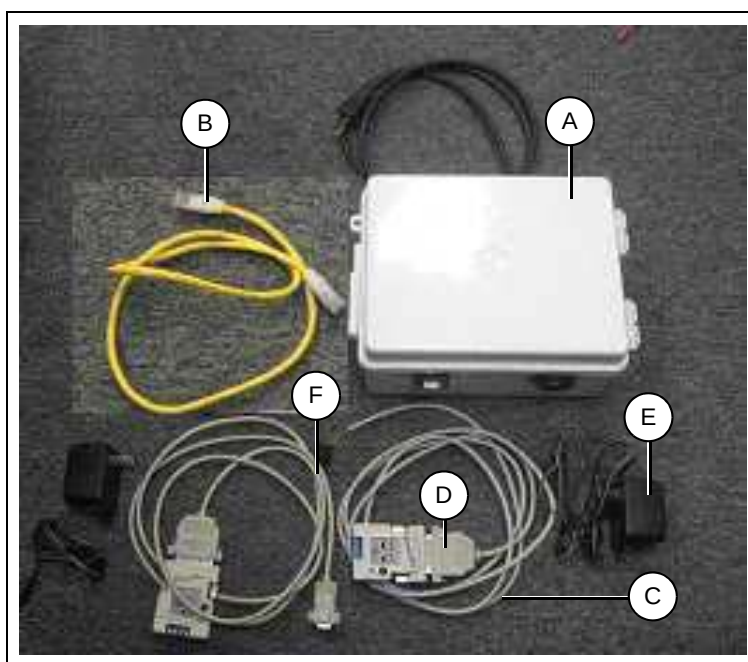
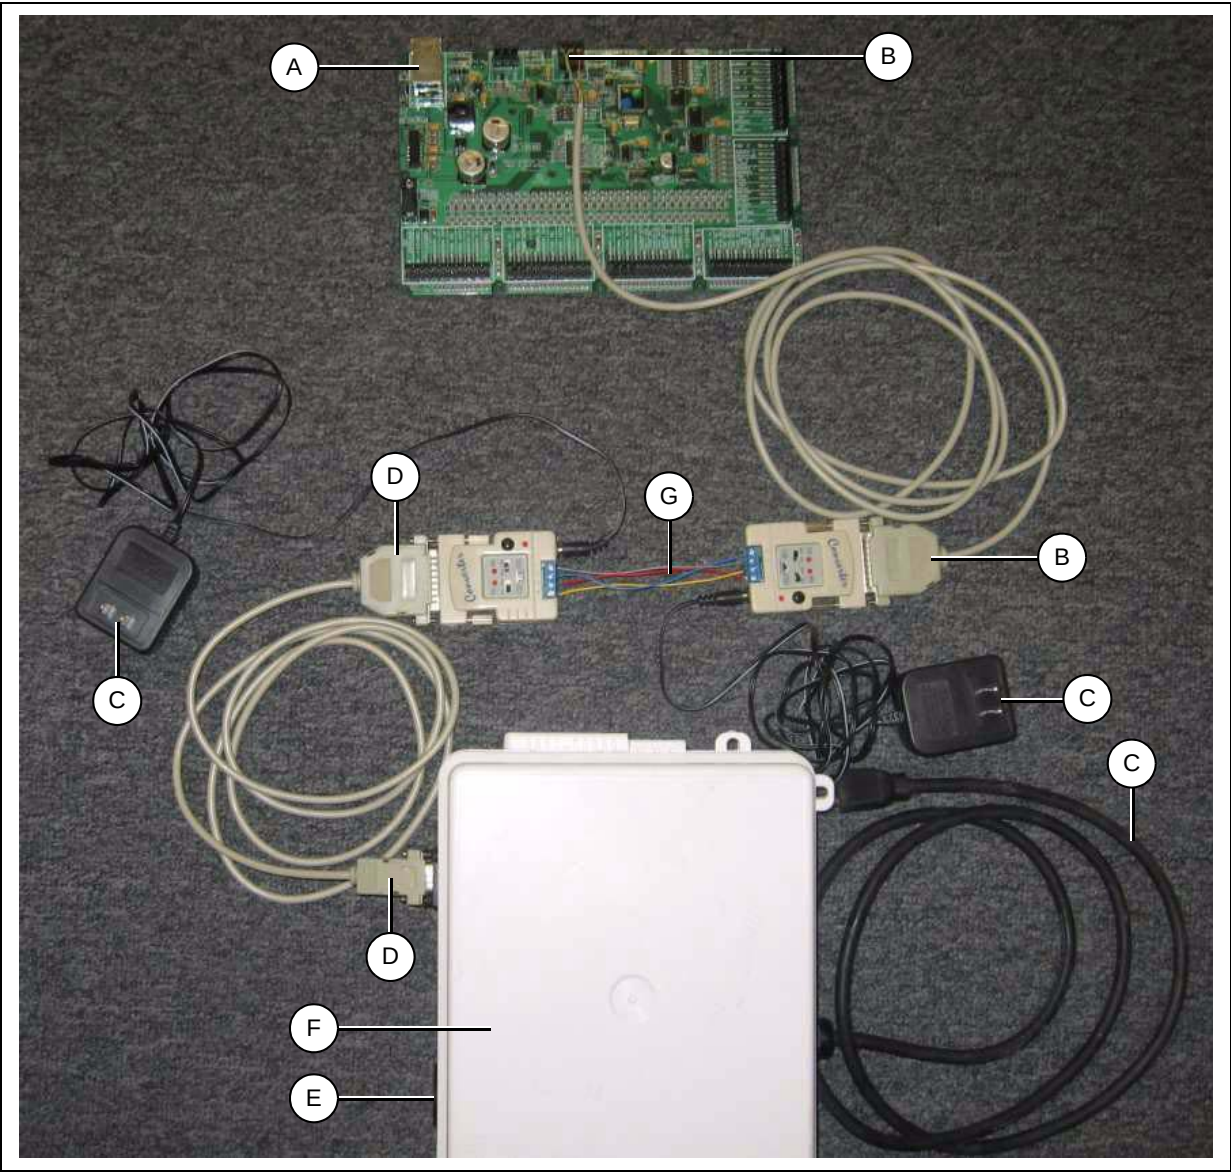

Figure 4A WatchDog System Components for Direct Connected Type (Part # VIS-WATCH-DC)
Figure 5A Wiring for Direct Connection
1. Direct Connect (Part # VIS-WATCH-DC) - This option allows the user to connect their dryer directly to their PC using two (2) short haul MODEMs and four (4) wires (Ethernet Cable). The contents of this option are pictured in Figure 4A.
The direct connection style setup (GSI Part # VIS-WATCH-DC) allows the user to connect his PC to the WatchDog System using two (2) short haul MODEMs. One MODEM will reside at the dryer, while another is located at the PC. Figure 4A on Page 11 shows the components included in this setup. The components are listed as follows:
2. Two (2) Short Haul MODEMs.
6. Ten (10) cable ties for routing wires.
The following list of steps should be followed to connect the WatchDog equipment to the dryer using a direct connection. Refer to *Figure 5A on Page 15* while performing the following steps.
2. Connect a short haul MODEM at the dryer. The cable (Modified Serial, *Figure 4A on Page 11*, Ref # C) supplied with the WatchDog shown in *Figure 4A on Page 11* should be plugged into the AUX port on the Display I/O Board (printed circuit board behind 10.4" color display) and the other end to a short haul MODEM. The short haul MODEMS power supply should be plugged into a 120 VAC receptacle (not provided) and the barrel connector into the short haul MODEM.
3. Connect the WatchDog to the Customer's PC via Ethernet cable (*See Figure 4A on Page 11*, Ref # B). The cable plugs into the RJ-45 connector on the side of the WatchDog enclosure (*See Figure 5A on Page 15*) and connects to an Ethernet connector on the customer's PC.
4. Connect the WatchDog Enclosure to the other short haul MODEM via the 9 pin to 25 pin serial cable (Ref # F in *Figure 4A on Page 11*). *Figure 5A on Page 15* shows this connection made.
H	Use modified serial cable (Figure 4A on Page 11 , Ref # C) to connect this short haul MODEM to Display I/O port on Vision Dryer. (See Figure 5A on Page 15.)
I	Use serial cable (Figure 4A on Page 11 , Ref # F) to connect this short haul MODEM to the WatchDog Enclosure's serial port. (See Figure 5A on Page 15.)